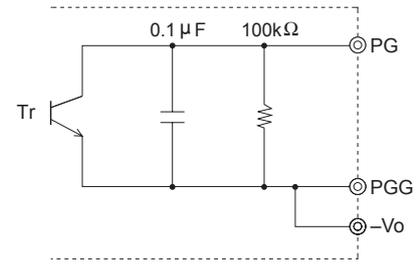

Fig.6.2 Internal circuit of PG
- Table 6.3, see Fig 6.2 the internal structure circuit explaining the operation of the PG alarm.